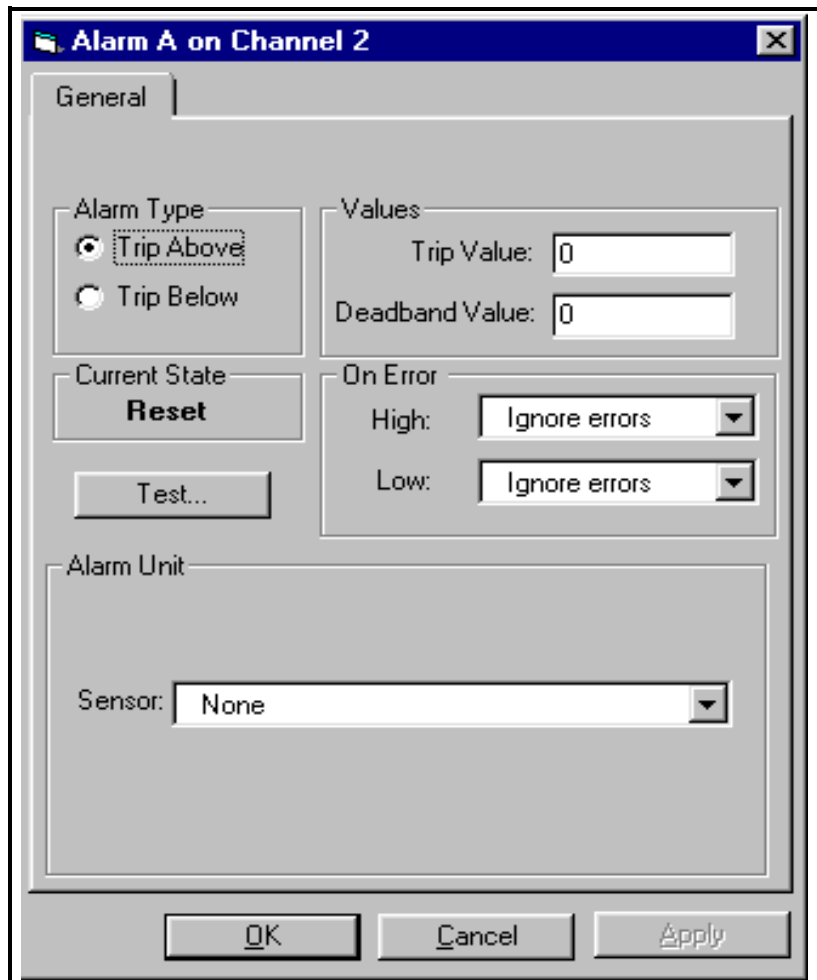

Figure 13: Alarm Programming Window
2. From the channel menu, click on the “*Alarms*” option, and then on “*Alarm A*” or “*Alarm B.*” The Alarm window appears, as shown in Figure 13.